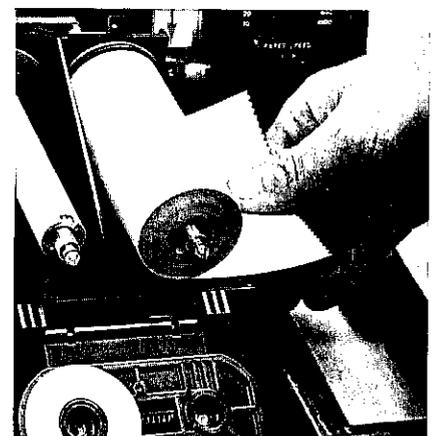

Figure 24
7. Slide a fresh roll of paper in position on the supply side shaft on the right side of the platen assembly. The paper must spool off the bottom of the roll. (See Figure 24)